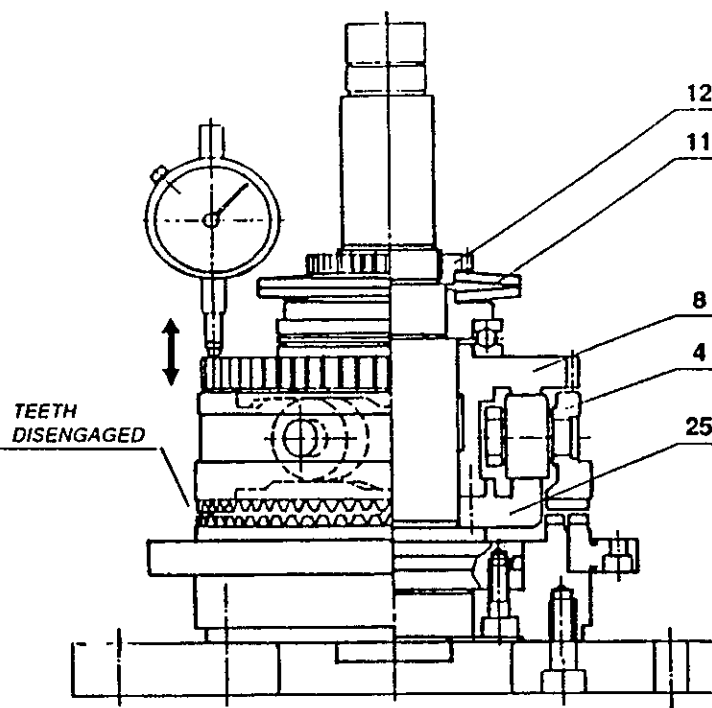

FIG 17.4 INSPECTION OF AXIAL CLEARANCE OF DRUM CAM ASSEMBLY
17.16 Inspection of axial clearance of drum cam assembly. (fig 17.4): Hold sliding coupling (4) by one hand and rotate cam gear (8) by the other hand, till the coupling teeth are dis-engaged as shown in fig. 4. Now place springs (11) and lock-nut (12) in position. Tighten locknut by hand, so that it will press the springs with a light pressure. Check axial clearance of drum cam by a dial indicator as shown in figure by lifting and lowering the cam gear by hand. Clearance should be within 0.1 to 0.2 mm. If clearance is low, it should be adjusted by surface grinding the bottom face of cam flange (25). If the clearance is more, it should be adjusted by replacing the flange (25) by a new flange of suitable extra thickness.
17.17 Remove disc springs (11) and screw in locknut (12) till it butts against shaft shoulder. Measure the gap between the nut face, and threaded shoulder (fig. 17.4). Mark a line on the nut face and spindle shaft to indicate the angular alignment.